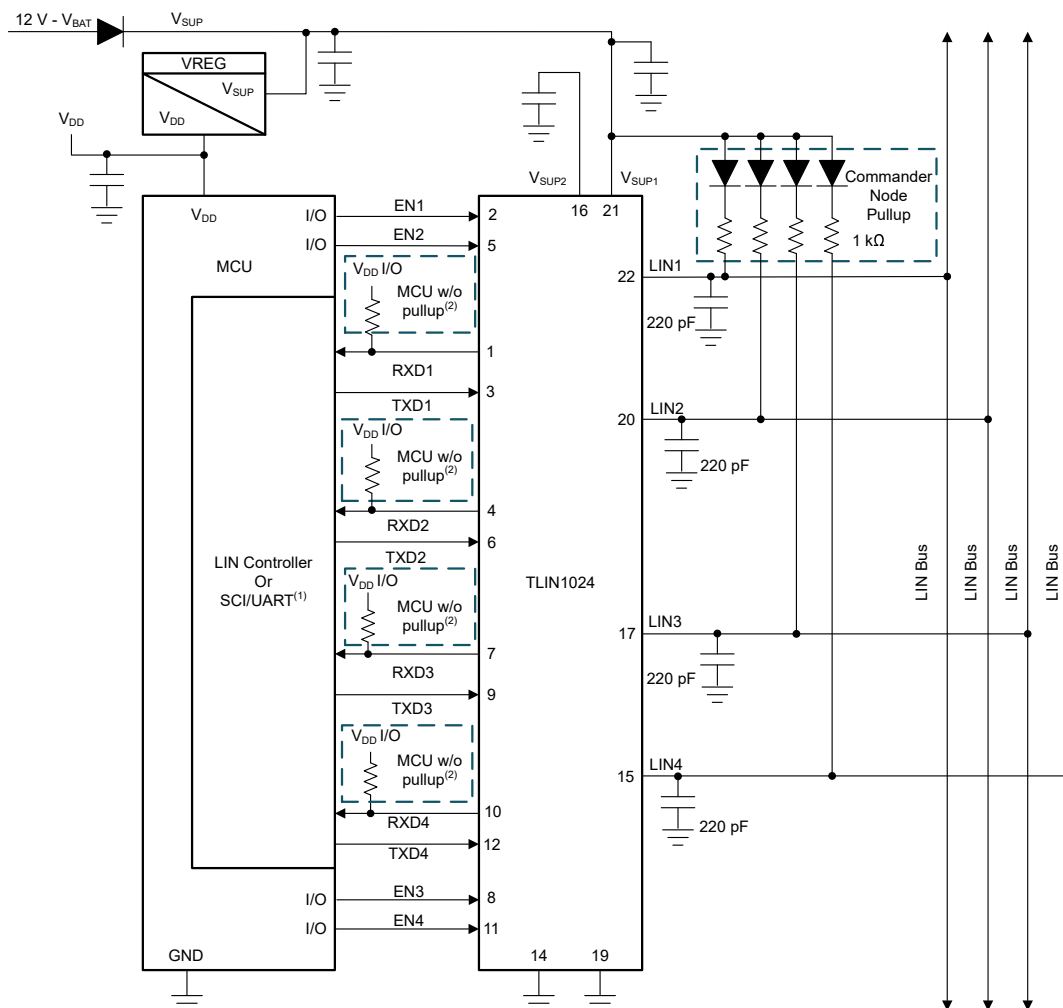

图 8-1. Typical LIN Bus
The device comes with an integrated 45 kΩ pull-up resistor and series diode for responder applications. For commander applications, an external 1 kΩ pull-up resistor with series blocking diode can be used. 图 8-1 shows the device being used in both commander and responder applications.
- **Pin 13, 18, 23 and 24 (NC):** Not Connected
- **Pins 22, 20, 17 and 15 (LIN1/2/3/4):** This pin connects to the LIN bus. For responder applications a 220 pF capacitor to ground is implemented. For commander applications an additional series resistor and blocking diode should be placed between the LIN pin and the V_{SUP1/2} pin. See 图 8-1.